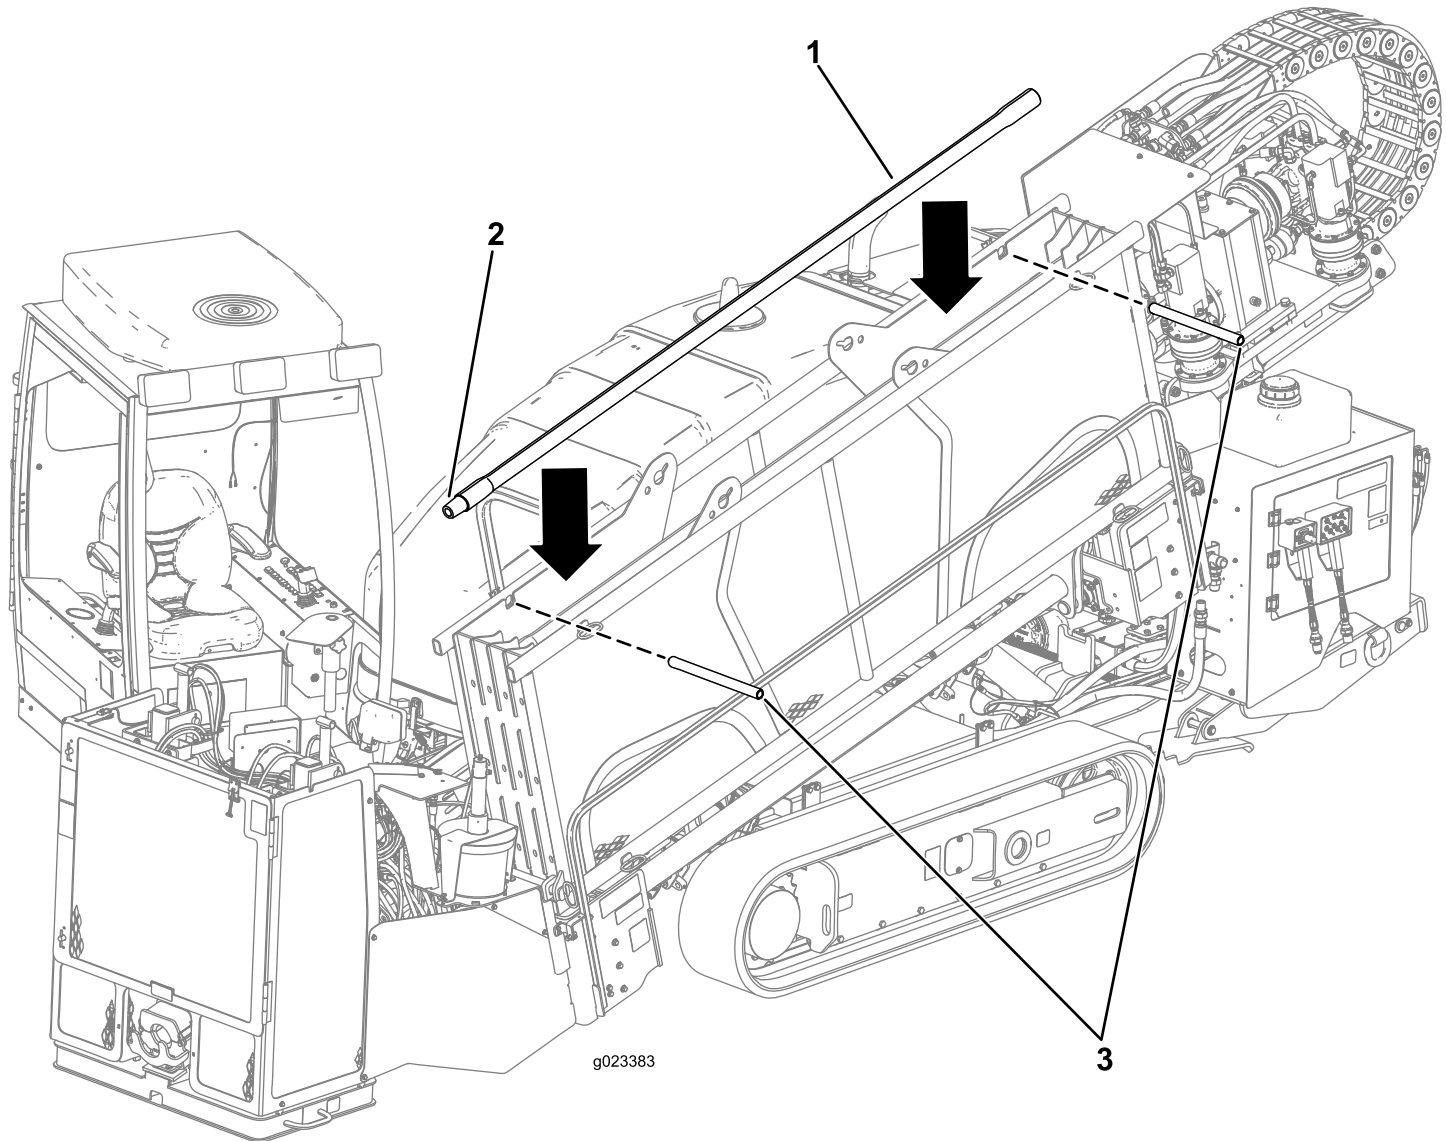

Figure 65
1. Remove the clevis pins from the pipe holder (Figure 65).
2. Insert the pipes from the top with the male threaded pipe ends toward the front of the machine (Figure 65).